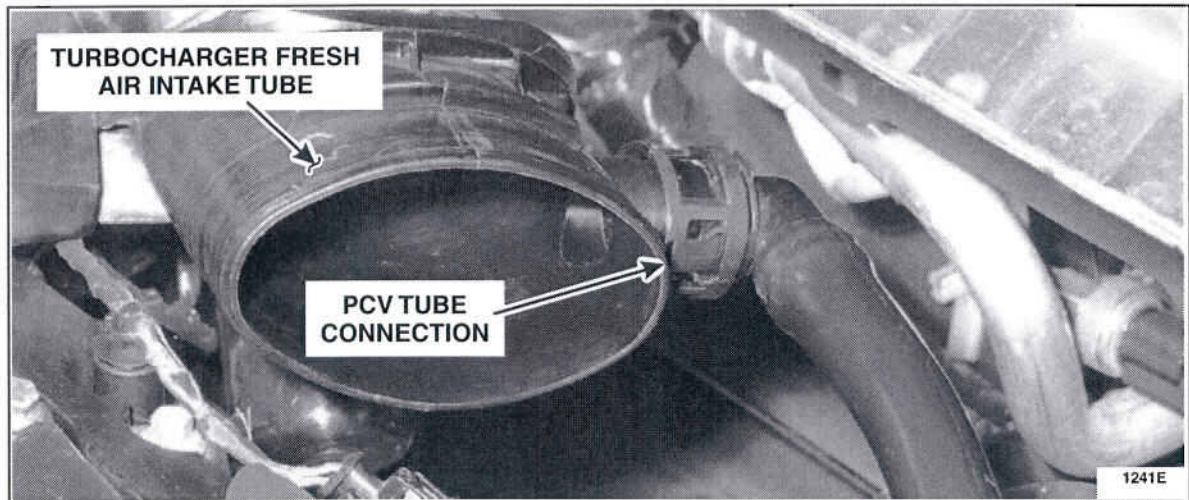

FIGURE 6
16. Inspect the PCV tube that connects to the back of the turbocharger fresh air intake tube for proper installation and evidence of oil leaks. See Figure 6.